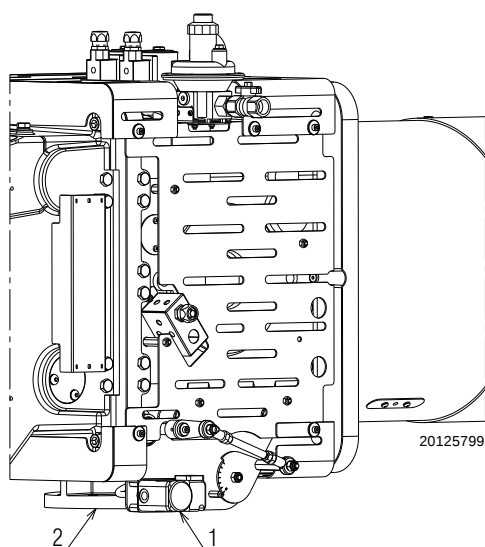

Fig. 20
The gas train is pre-arranged to be connected to the burner at the flange 2)(Fig. 20).
Gas pressure measured at test point 1)(Fig. 20), with:
Pressure loss at gas butterfly valve 2)(Fig. 20) with maximum opening: 90°.
- subtract the pressure in combustion chamber from the gas pressure measured at test point 1)(Fig. 20).
Gas pressure at test point 1)(Fig. 20) = 61.2 mbar
To calculate the required gas pressure at test point 1) (Fig. 20), set the maximum modulating output required from the burner operation:
- read, on the right (column 1), the pressure at the test point 1) (Fig. 20).
pressure required at test point 1)(Fig. 20).